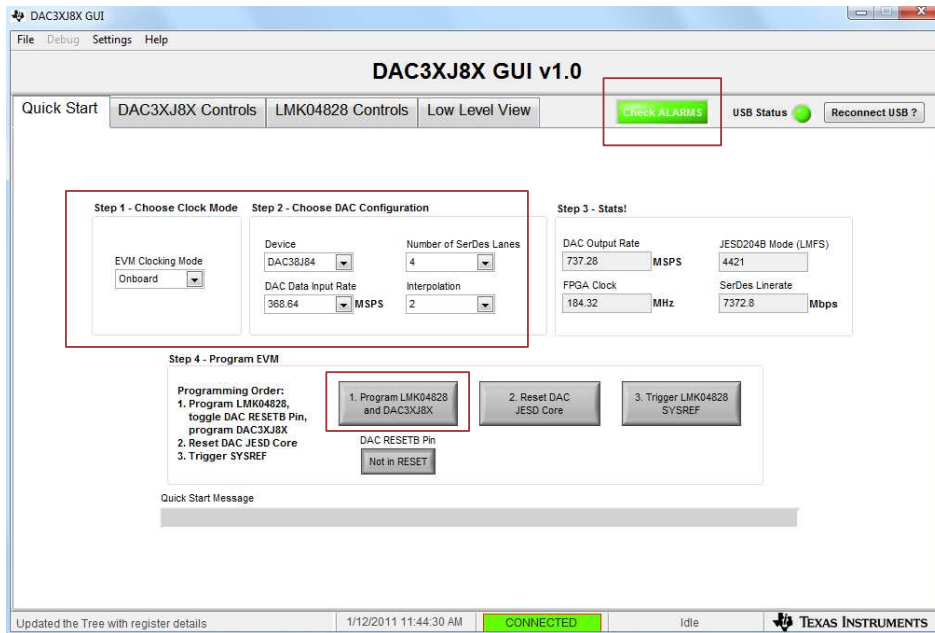

Figure 10. DAC38J8x GUI Start Page
- Click the "Program LMK04828 and DAC3XJ8X" button. Figure 10 shows the DAC38J8x GUI start page.